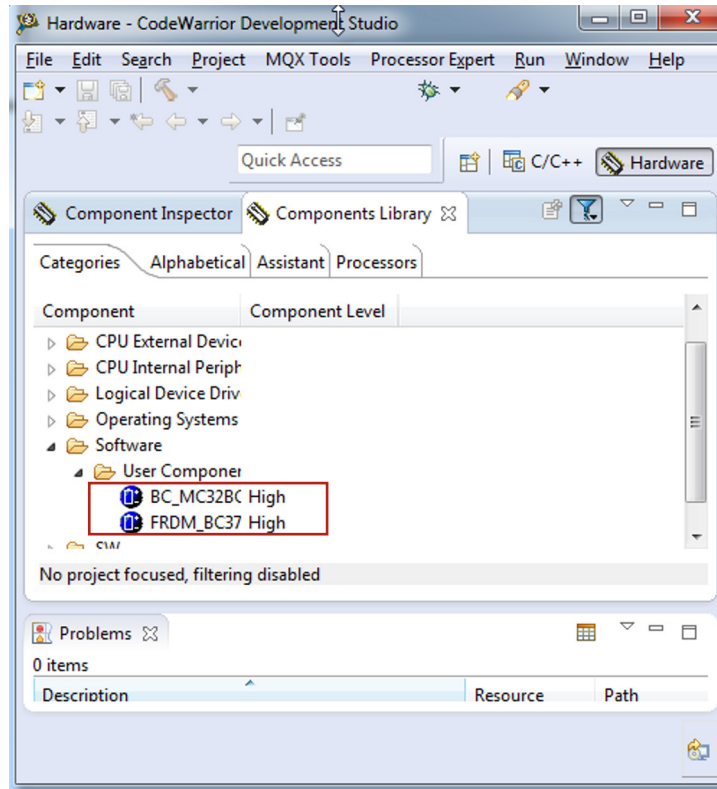

Figure 19. BC3770 components location after CodeWarrior Import
3. If the import is successful, the BC3770 and FRDM_BC3770 component appears in Components Library -> SW -> User Component (see Figure 19). Note that the component **ChannelAllocator** is hidden and is not accessible to users. This component is used by the BC3770 components only.